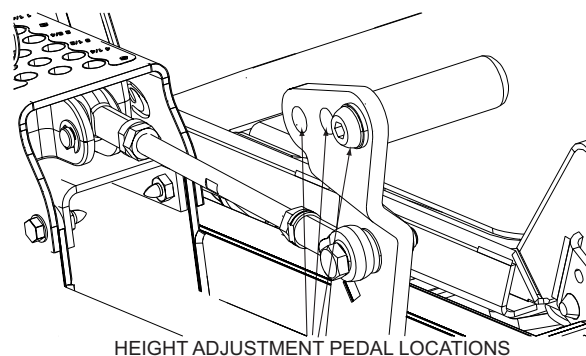

Figure 4-8. Height Adjust Pedal Locations
- The height adjust pedal can be located in three (3) different positions for operator comfort and control. See Figure 4-8.